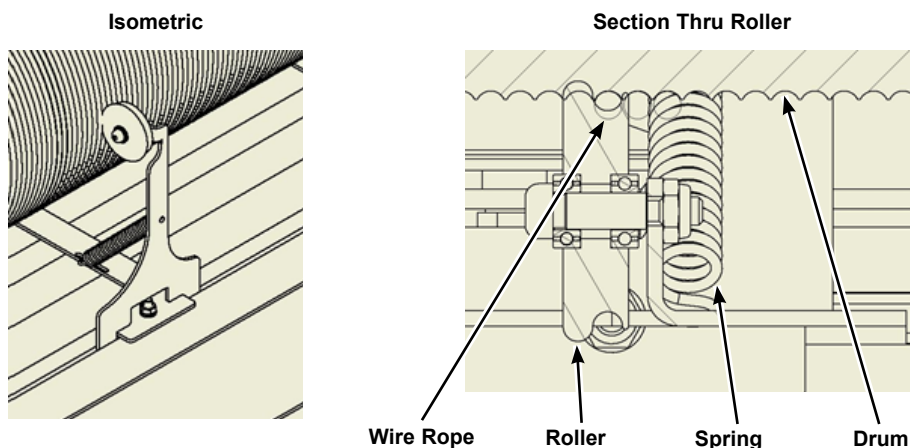

Figure 1: Guide Roller
1. The rollers are attached to the stationary hoist frame with slotted holes for alignment. The roller should roll in the first empty groove next to the wire rope on the drum as shown in Figure 1. Once the rollers are properly aligned, tighten both mounting bolts.